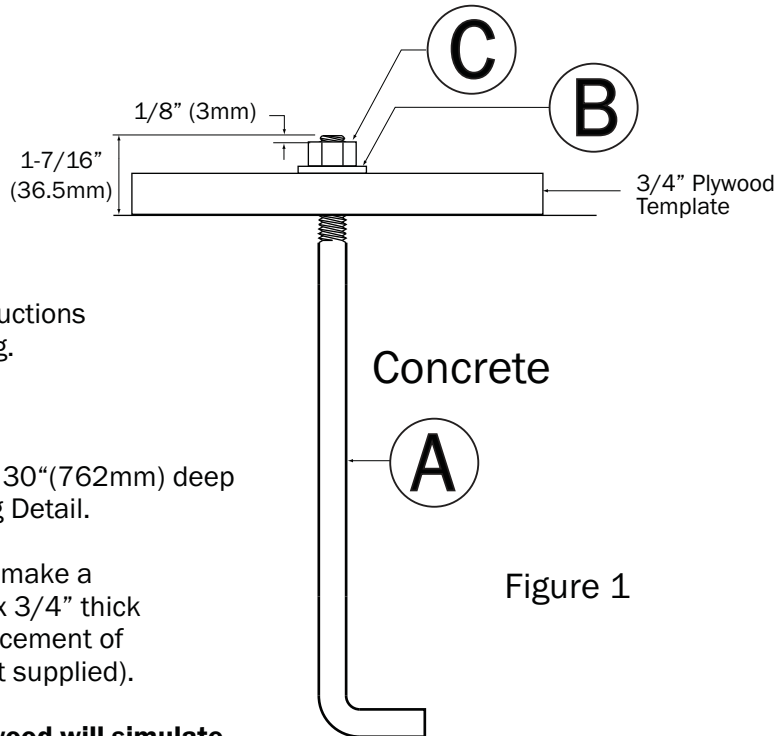

Figure 1
3. From center of plywood, mark (4) holes from Base Plate onto plywood and drill 1/2" thru holes.
4. Insert (4) 1/2" Anchor Bolts (A) into holes in plywood and secure with (4) Flat Washers (B) and (4) Hex Nuts (C).
! **Tighten Hex Nuts (C) onto Anchor Bolts until thread extends 1/8" beyond nut . (See Figure 1).**
6. After concrete has cured, loosen and remove Hex Nuts (C) and Flat Washers (B). Remove Plywood Template.
7. Align holes in Base Plate of Spring Rider with Anchor Bolts (A) in concrete.
8. Secure Spring Rider to concrete footer with (4) Flat Washers and (4) Hex Nuts.